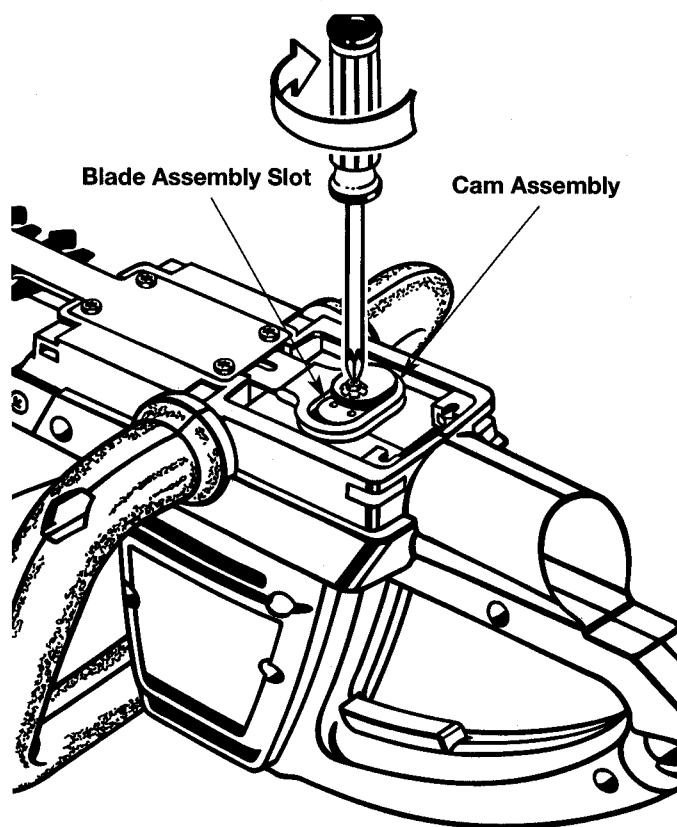

Fig. 10
3. Rotate cam assembly clockwise so that blade assembly slot is aligned with cam assembly (Fig. 10).